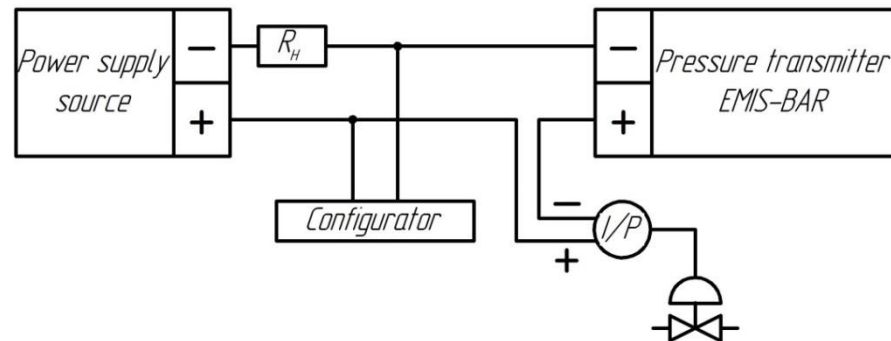

Figure 19 - Communication chain where transmitter is connected to control pipeline valve using controller I/P.
2.4.2 Figure 19 shows communication chain where transmitter is connected to control pipeline valve using controller I/P. Control is performed by 4-20mA output current. Output current shall always be permitted.